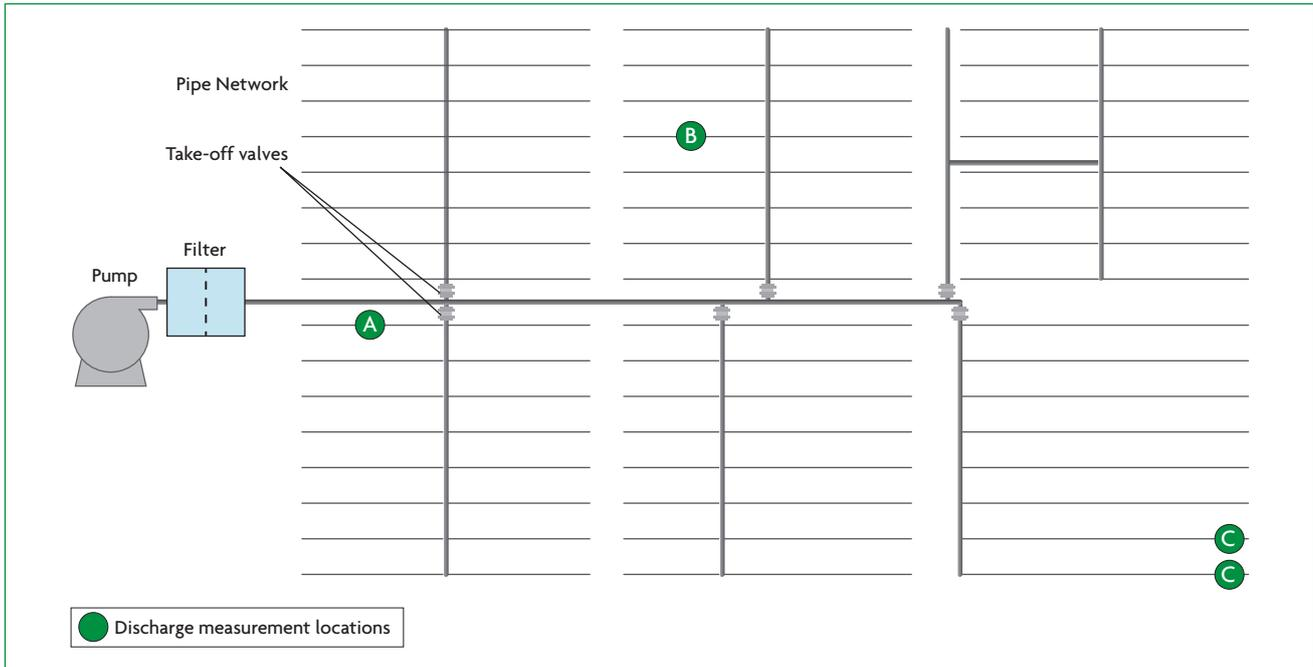

Figure 3.2. Multiple emitter flow measurement locations.
Usually the dirtiest location (that most likely to have clogging) is the one hydraulically furthest from the headworks and filters (Figure 3.2 C). Often this is also a lower area. If a different area is known to be dirtiest, select that area instead.
6. Measure the discharge of the same sixteen (16) adjacent emitters (or dripline sections) used in the Clean Area Uniformity Test (Figure 3.2 A).